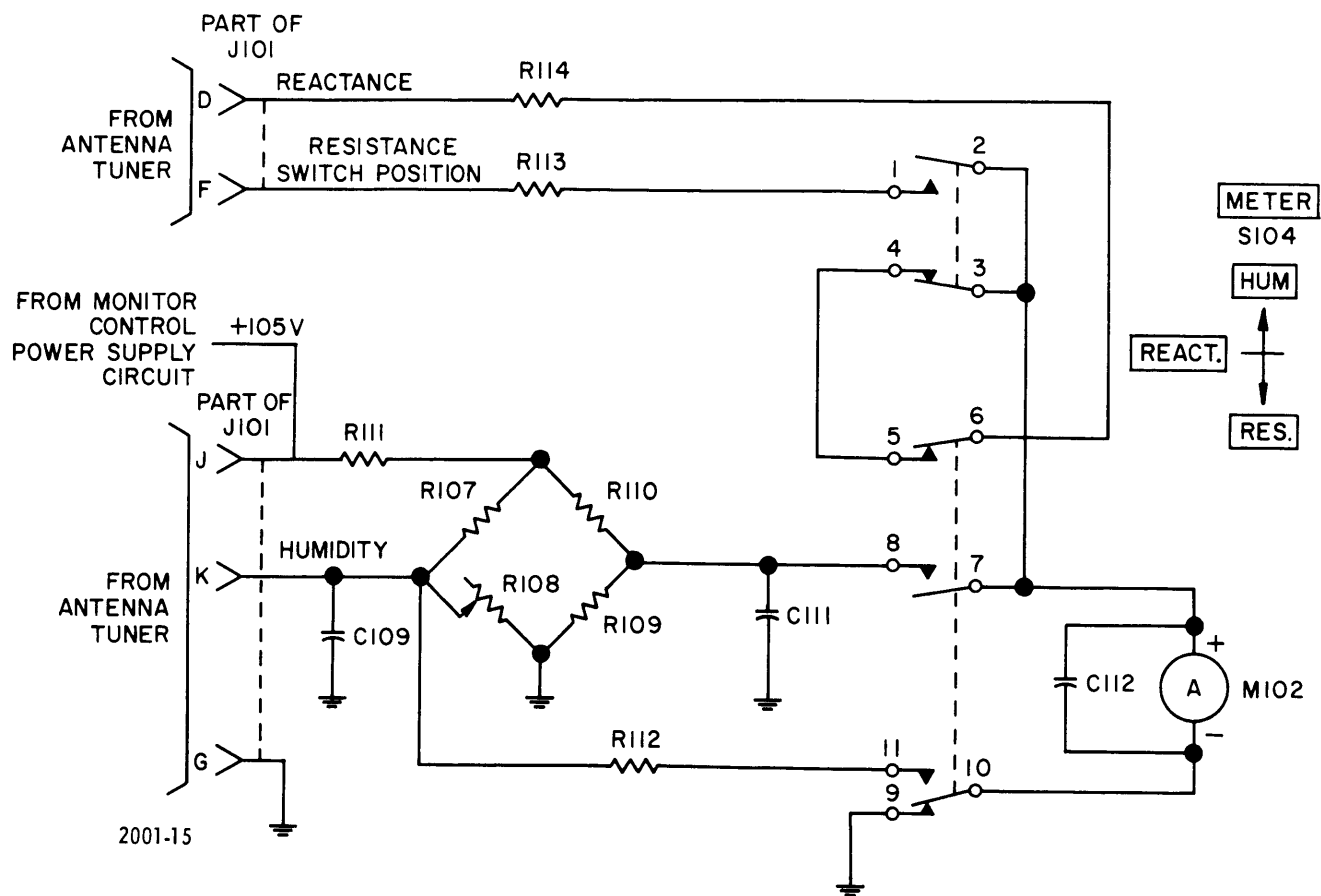

Figure 4-6. HUM./REACT./RES. Meter Circuit, Simplified Schematic Diagram
b. HUM./REACT./RES. METER CIRCUIT. - The meter circuit, Figure 4-6, provides visual indications of humidity, amount of reactance added, and resistance switch position in the antenna tuner.